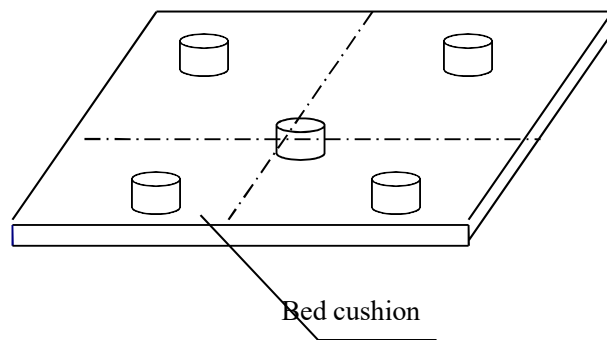

Figure 3-2 Arrangement of Test Devices
A group of five testing devices arranged in a specified pattern (as shown in Figure 3-2) and used for equipment performance test.
The average temperature set in the test devices at the middle point. (as shown in Figure 3-2)
- e. Temperature control uniformity: difference between mid-point temperature and temperature at other points not higher than 2°C (as shown in Figure 3-2)